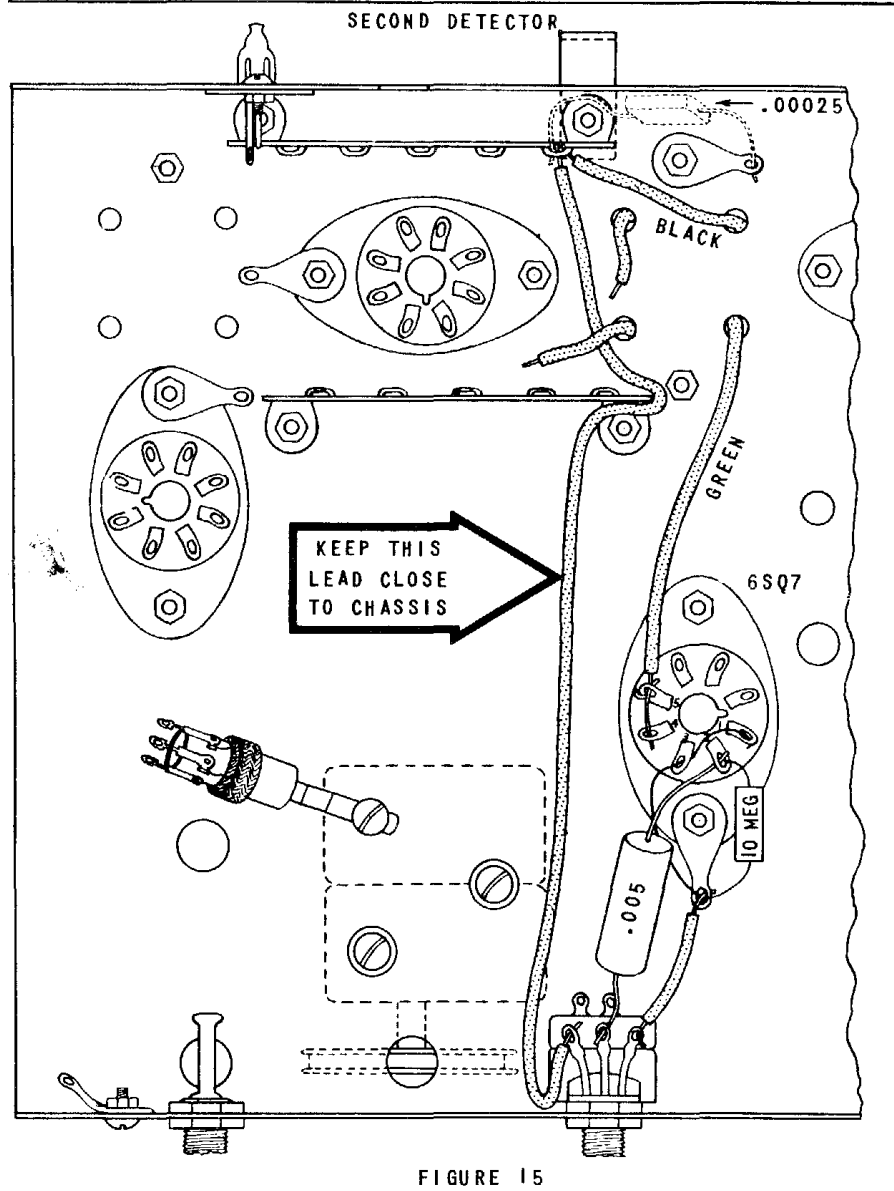

FIGURE 15
Your second detector circuit should be wired according to the schematic diagram of Figure 14 with the parts placed as illustrated in the pictorial diagram of Figure 15.
- Similarly, the black lead should be connected directly to the nearest terminal of the five-lug terminal strip as shown in Figure 15.